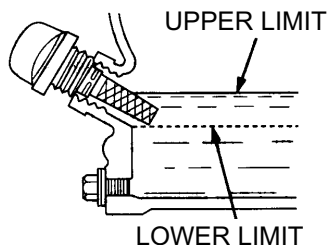

Figure 4. Engine Oil Dipstick (Oil Level)
4. If the oil level is low (Figure 4), fill to the edge of the oil filler hole with the recommended oil type (Table 5).